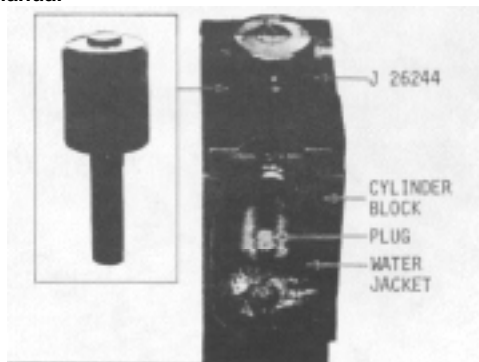

Fig. 2 Checking Depth of Plug
- (3) Place depth gage J 26244 (Fig. 2) in the cylinder head bolt hole and loosen the set screw. If the depth gage is flush with or below the knurled gage holder, the plug is installed and sealed at the proper depth.
- (4) Remove excess Loctite from the bolt hole threads by running an 11/16" bottom tap until it bottoms on the plug. Run the tap in by hand. Power equipment (impact gun, etc.) should not be used as they may cause the tap to disturb the Loctite seal.